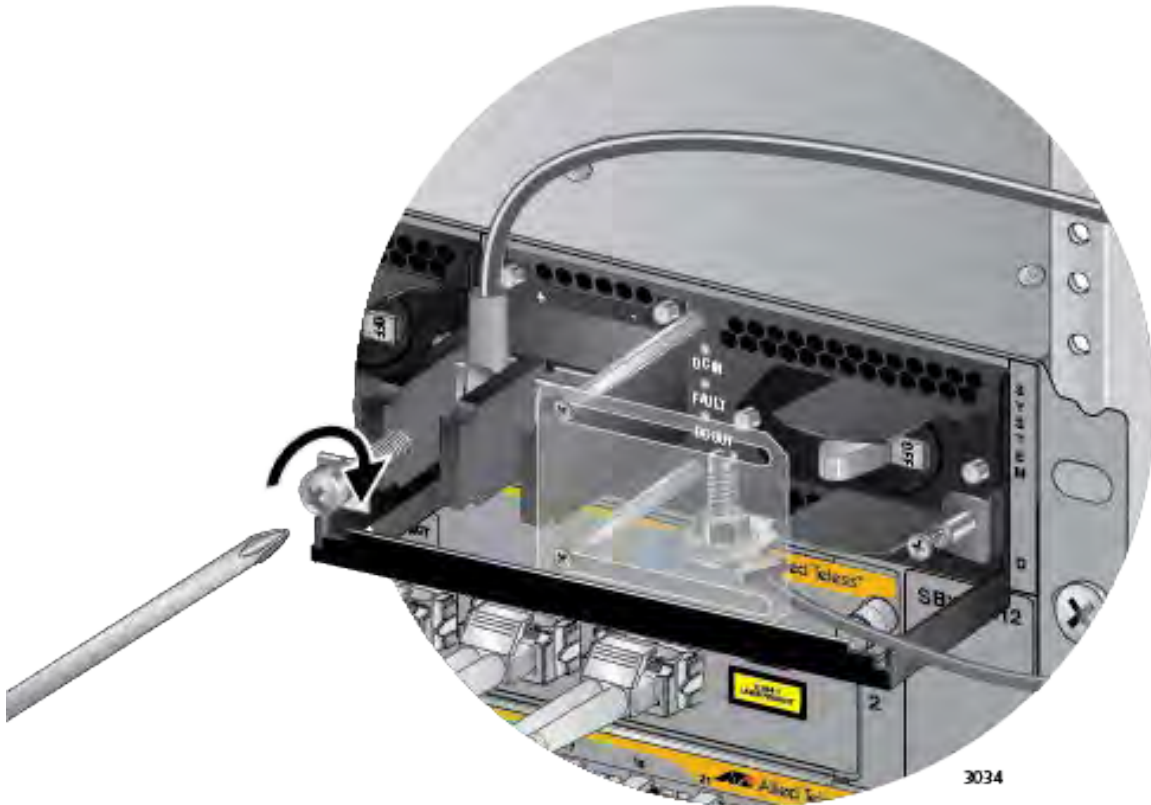

Figure 139. Connecting the Positive (+) Power Wire with a Straight Terminal
6. With a #3 Phillips-head screwdriver, connect the positive (+) power lead wire to the positive terminal on the power supply, with one of the terminal screws removed in the previous step. The positive terminal is on the left. You may attach the terminals with the wires either above or below the terminal block. Figure 139 on page 218 shows the positive wire above the terminal block.